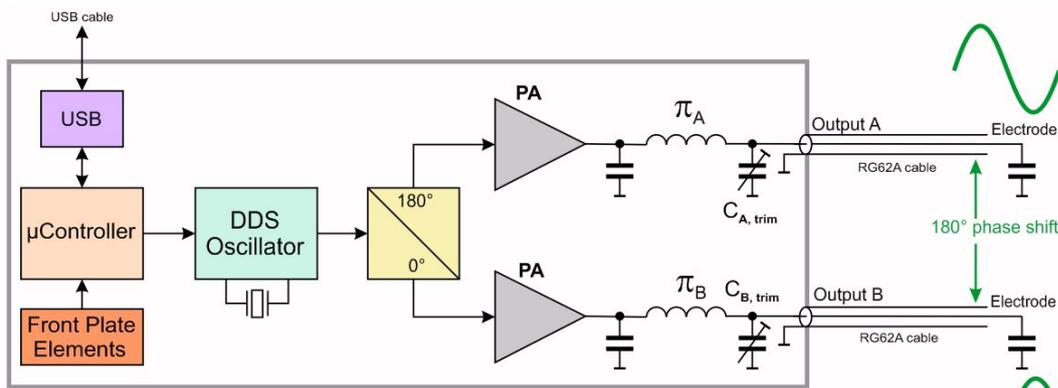

Fig. 2a: Block diagram of the internal structure, illustrating the functional principle.
The following picture (fig. 2a) displays a block diagram of the internal structure, illustrating the functional principle. A digital oscillator provides a sine wave of freely adjustable and precise frequency. An inverter circuit creates the inverted signal, or in other words a 180° shift. These two signals are fed into power amplifiers (one for each channel) of choosable amplification factor, followed by a resonant circuit. The latter magnifies the obtainable voltage (about 20Vpp out of the power amplifier, PA) roughly by a factor of 50. Thus, voltages of a few hundred volts to about 1kV (peak-peak values) are created, suited for Paul Ion Traps or Quadrupole Structures. For balancing possible asymmetries, trim capacitors are provided (rear side) to balance different capacitive output loads, thus obtaining equal output levels on both outputs.
The device features an offset DC input, by which the output voltages can be shifted. Voltages being applied to these input lines are added to the AC signal (RF) of the outputs (this feature is not shown in fig. 2a/b).